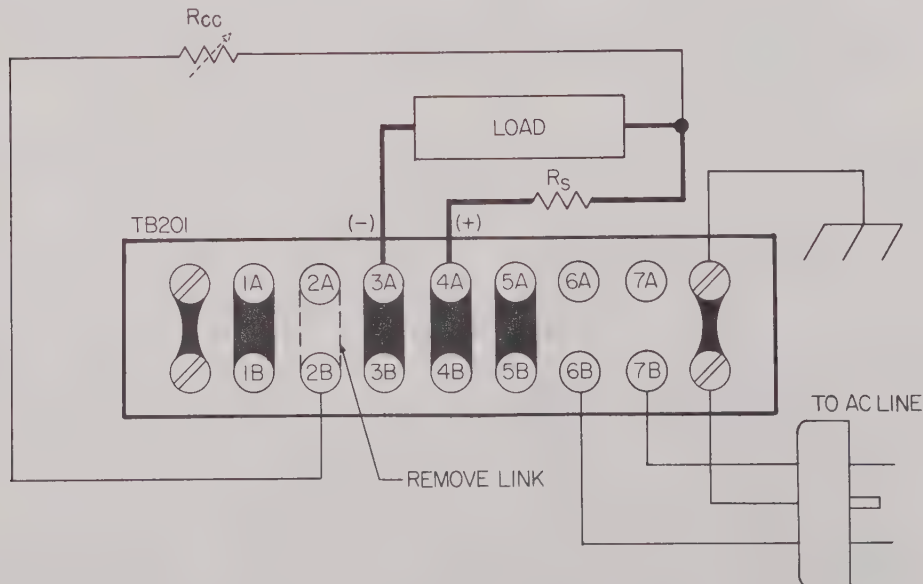

FIG. 3-6 CONNECTIONS FOR CONSTANT CURRENT OPERATION
3-29 PROCEDURE (Constant Output Current) (Refer to FIG. 3-6)
- 3-30 Connect programming components as shown in FIG. 3-6. The selection of these components will vary according to the individual application. Their calculation can be best shown by an example: